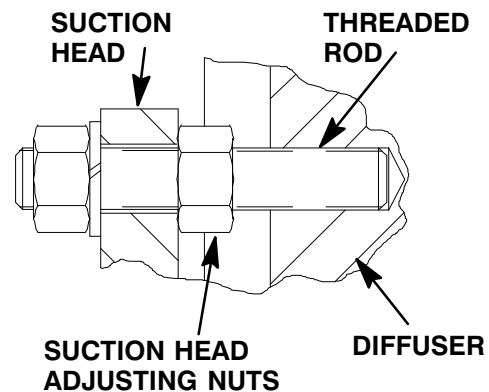

Figure C-4. Suction Head Adjustment Detail
Apply a **light** coating of oil to the seal seating surface on the shaft, the groove for the retaining ring (5), and I.D. of the bellows. Inspect the seal face to ensure that it is clean and dry. If cleaning is necessary, use a clean tissue to wipe in a circular pattern. Slide the seal rotating portion onto the lubricated shaft as shown in Figure C-4. Apply firm, steady pressure on the seal retainer until it slides down the shaft.
Slide the seal spring over the shaft and bellows retainer, and install the spring holder (8). Install the seal retaining ring (5). See Figure C-4 for the proper order of seal assembly.
See Figure C-4 and install the suction head adjusting nuts (3) on the threaded rods (2). Position the suction head over the threaded rods and press it into the diffuser until fully seated against the adjusting nuts.